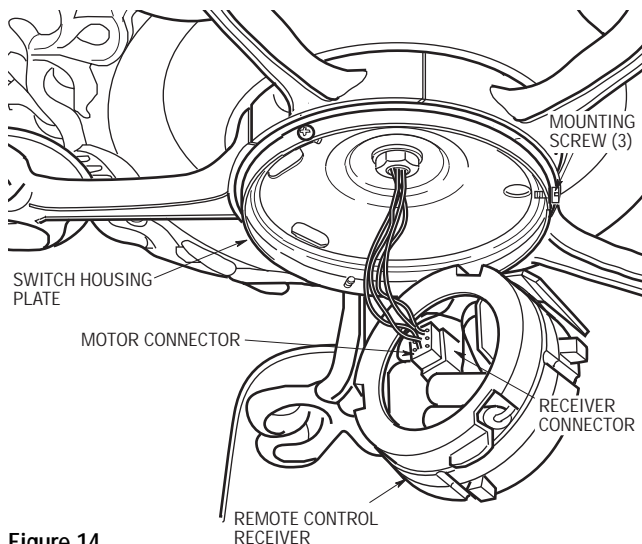

Figure 14
- 18. Engage the motor connector with the connector in the remote control receiver (Figure 14). The two connectors are keyed and must be mated correctly before they can be engaged.
- 19. Remove one of the mounting screws from the switch housing plate (Figure 14) and loosen the other two screws several turns.